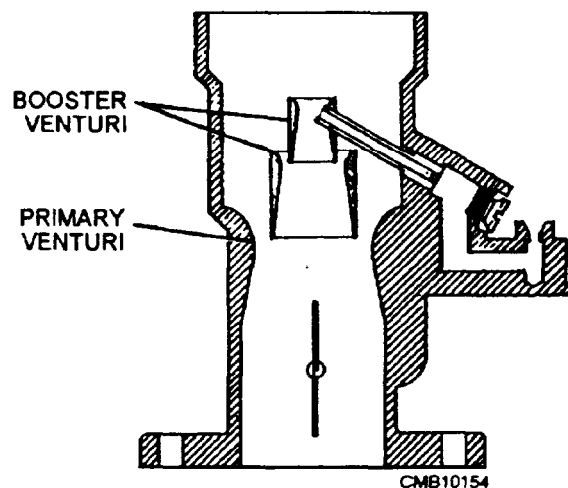

Figure 4-25.—Booster venturi
- The **VENTURI** is the hourglass shape, formed in the side of the carburetor air horn. One or two booster venturis (fig. 4-25) can be added inside the primary venturi to increase vacuum at lower engine speeds.